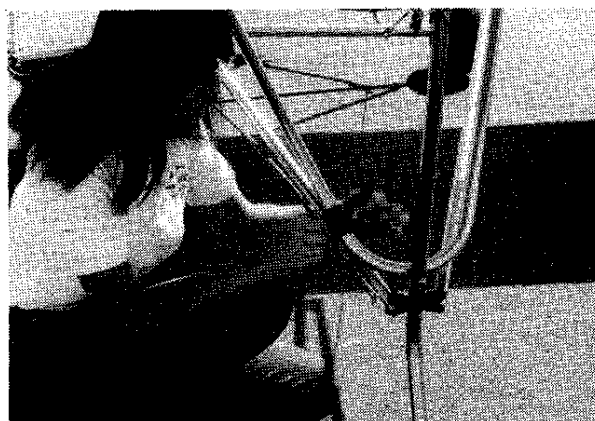

Figure 2.46
52. Slide teleflex cable bracket over sleeve of rudder brace. **Figure 2.46**